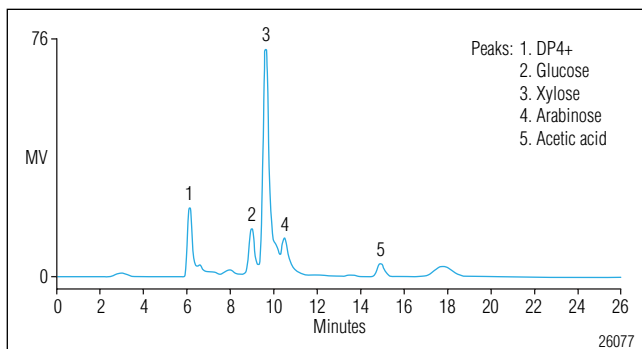
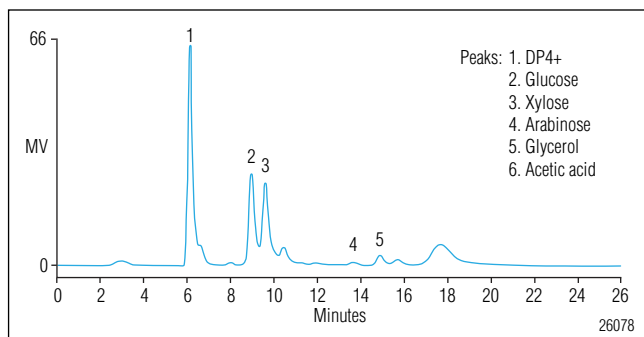

Figure 1. HPLC characterization of switchgrass pretreated with 0.2%  $H_2SO_4$
Figure 2. HPLC characterization of switchgrass pretreated with 0.5%  $H_2SO_4$
Two different concentrations of acidic solvents were examined for hydrolysis of switchgrass samples to determine the optimal concentration for recovery of glucose (Table 2). The HPLC analysis showed that for samples pretreated with 0.2% H2SO4, xylose was the predominant sugar present (Figure 1). Samples pretreated with 0.5% H2SO4 had a significant increase in glucose levels (Figure 2). Table 3 lists the HPLC conditions.
**Table 3. HPLC Conditions for Figures 1 and 2**